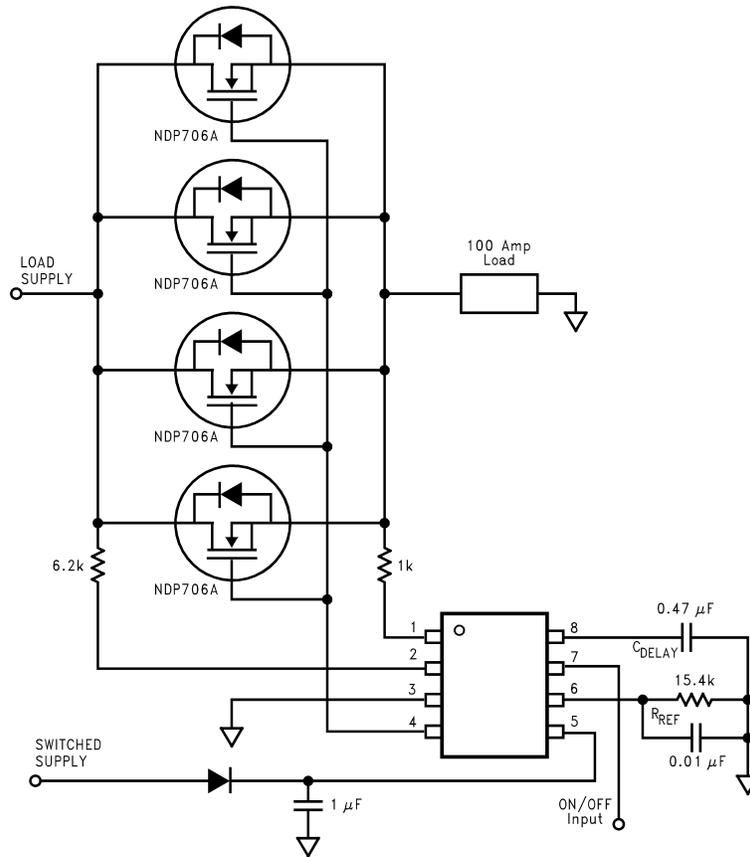

Figure 21. Driving Multiple MOSFETs
**Figure 21** shows a circuit with four parallel NDP706A MOSFETs. This particular MOSFET has a typical  $R_{DS(ON)}$  of 0.013 $\Omega$  with a  $T_J$  of 25°C, and 0.020 $\Omega$  with a  $T_J$  of +125°C.